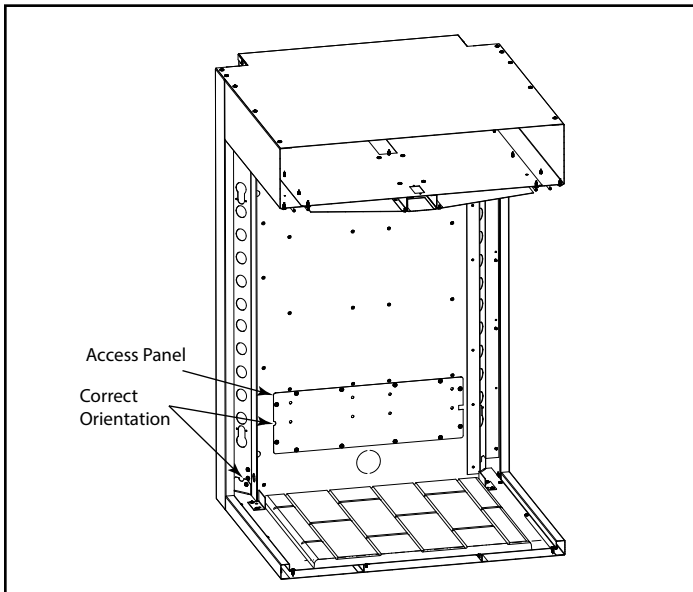

Figure 2 - Side Access Panel
3. Remove side access panel. See Figure 2.
19. Reinstall side access panel with twelve (12) screws previously removed as shown in Figure 2.